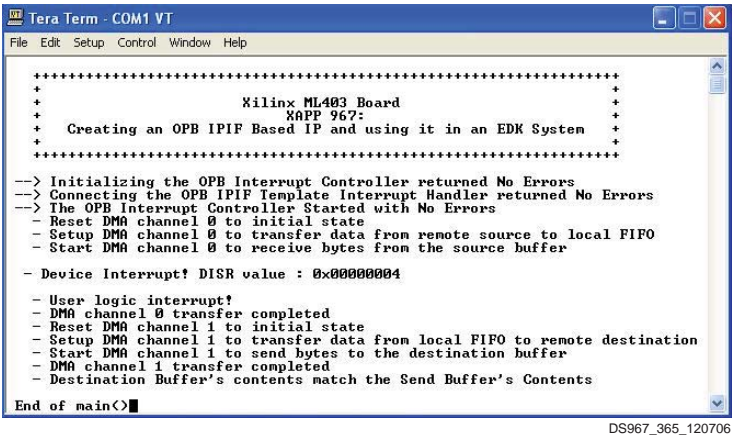

Figure 36: HyperTerminal Display
4. The HyperTerminal Window displays as shown in Figure 36.